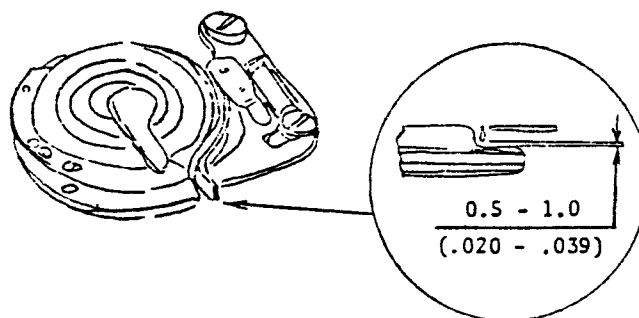

Fig. 32-6
- c. Clearance of 0.5 to 1.0 mm (.012 - .039) between underside of cushion spring and top of bobbin case. See Fig. 32-6.